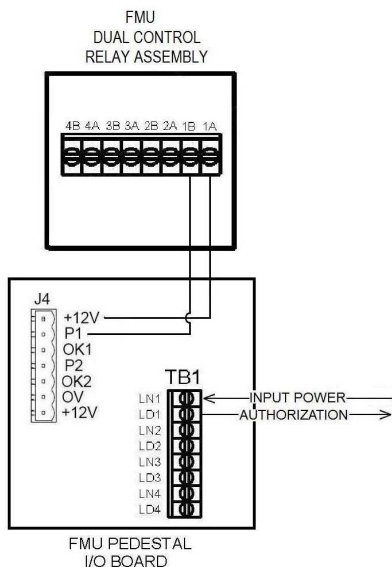

Figure 20 Generating Pulse with Dual Control Relay Assembly
**Using Dual Control Relay Assembly (DCRA) to Generate Pulses** - A DCRA may be used with either an AC or DC momentary power signal and can switch two positions with each authorization. Figure 20 illustrates how a DCRA may be wired to use an AC or DC input on LN to send a momentary on LD and how to apply a 12VDC pulse to P1. Repeat this wiring configuration for each FMU hose position used.